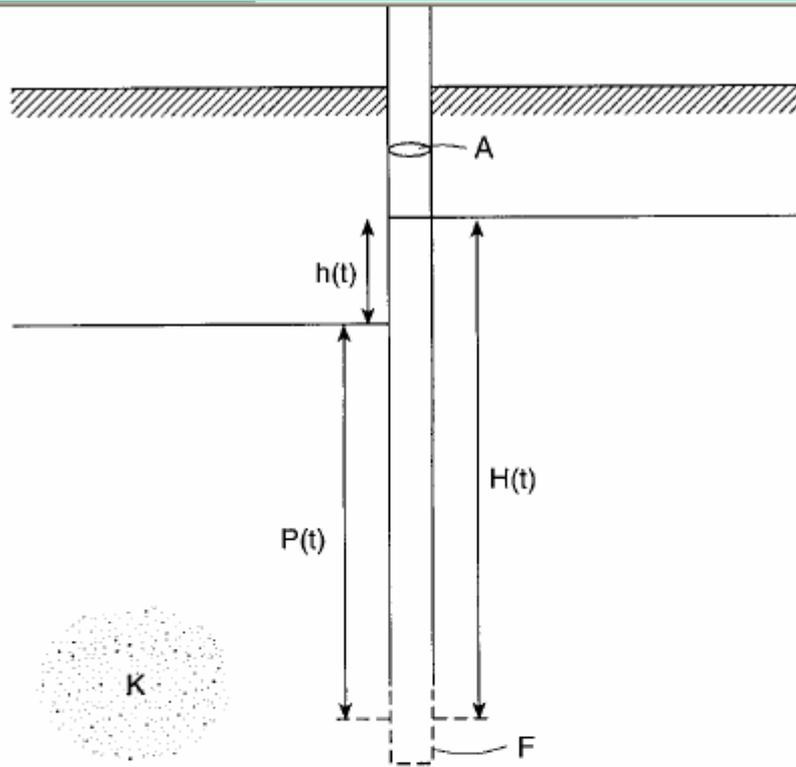

Figure 2. Piezometer notation.
The theory of piezometer response time was first elucidated by Hvorslev (1951). Hvorslev's theory assumes a rigid soil in which Darcy's Law describes the flow of water below the water table. For simplicity, Hvorslev (1951) considered a hydrostatic situation in which the water level in the piezometer was initially in equilibrium with pore-water pressures around the piezometer intake. He then assumed that pore-water pressures in the real system changed instantaneously to a new constant level. Following the notation given in Figure 2, he noted that the instantaneous discharge of water into the piezometer is given by
where A is the inside cross-sectional area of the piezometer standpipe (L^2), H is now the water level in the piezometer (L) (compare with equation (1)), t is time (T), h is the difference in head between the piezometer and the soil around the intake (i.e., $P - H$) (see Figure 2; when h is negative, Q is also negative and water flows *from* the piezometer; when h is positive, water flows *into* the piezometer), and F is the shape factor of the piezometer intake (L), which is a function of the size and shape of the piezometer intake and the pattern of flow around the intake. Hvorslev